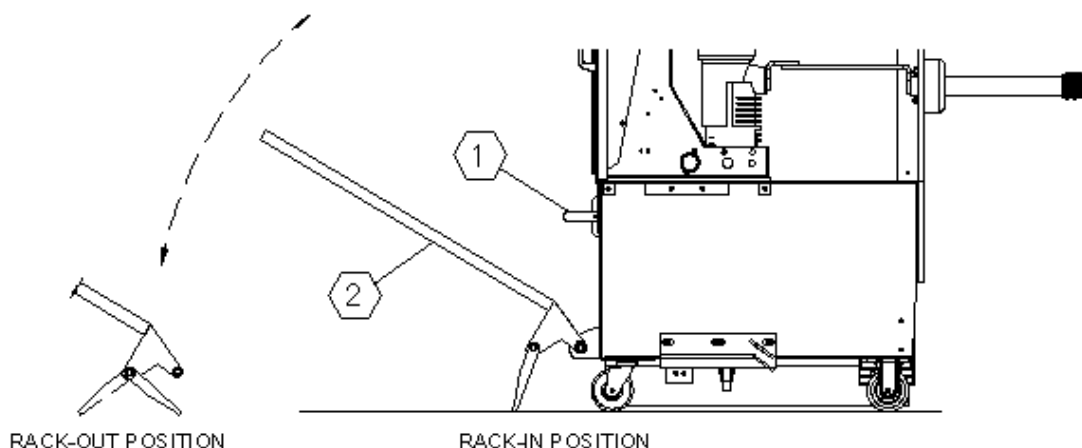

Figure 1 : Racking Detail
Roll the breaker into the cell to the "DISCONNECTED" position, the handle (item 1, fig. 1) will rise up and drop down as the racking interlock latches the breaker into position.
In order to remove the breaker from the "CONNECTED" position, the breaker must be open. Open the breaker, lift and hold the handle and use the racking lever (item 2, fig. 1) to draw the breaker out.